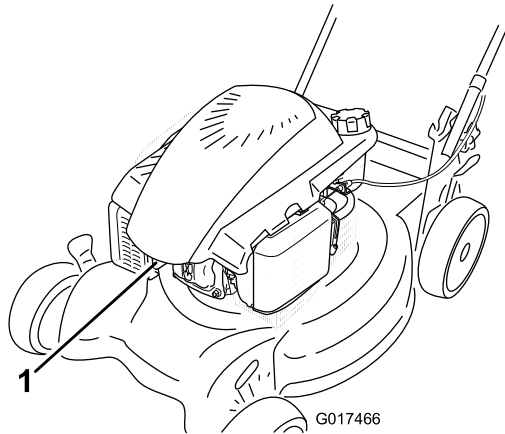

Figure 35
2. Disconnect the spark plug wire from the spark plug (Figure 35) before performing any maintenance procedure.